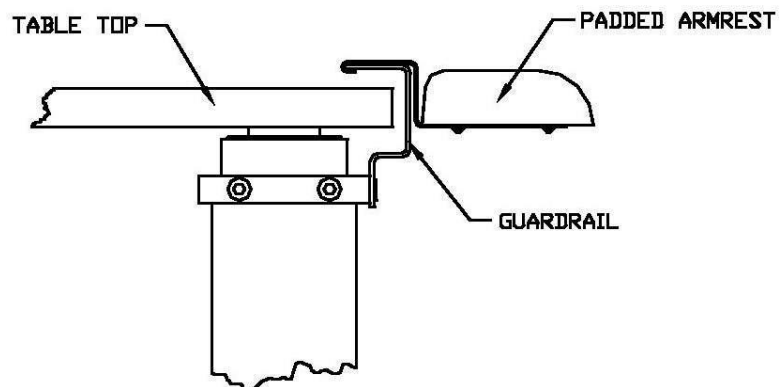

Fig. 7 Optional Padded Armrest.
| Fig. 7 Optional Padded Arm Rest.....   | 7  |
1. The optional adjustable padded Armrest is ordered in pairs. (Refer Fig. 7).
2. To install the adjustable padded armrests simply drop onto the guardrail (as shown Fig. 7). They can then be slid into any position desired.